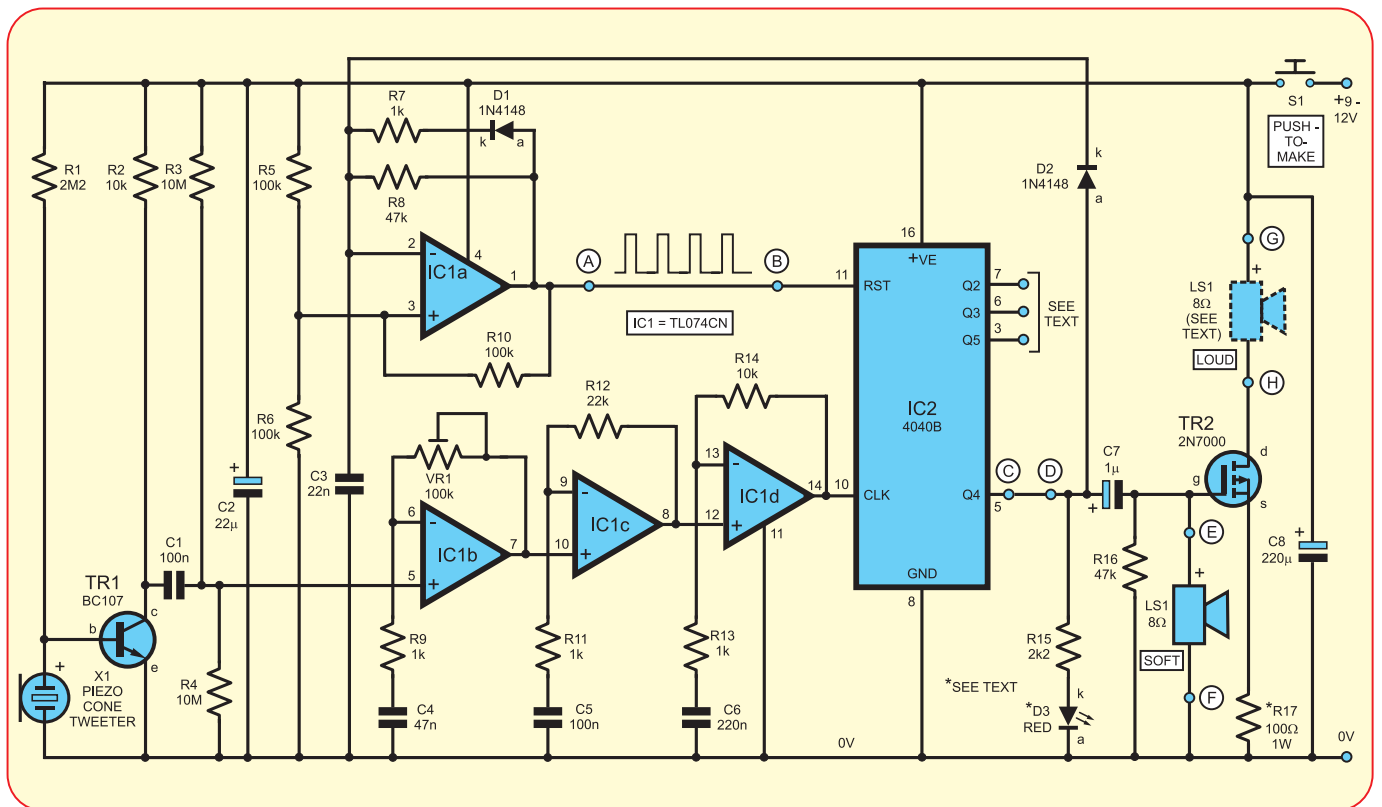
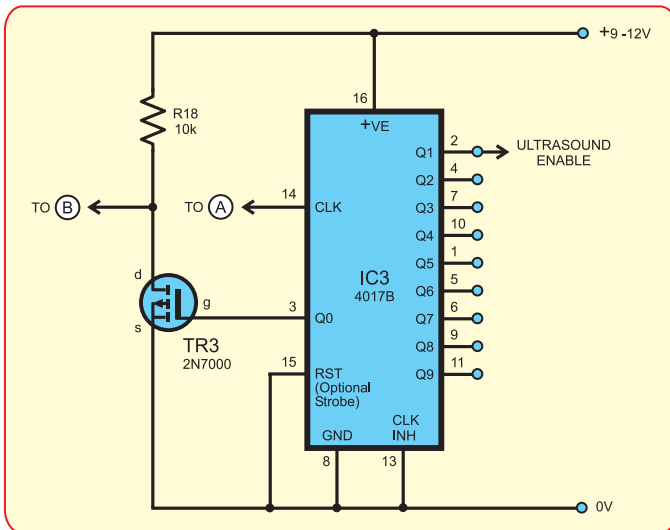

Fig.2. Complete circuit diagram for the Bat Sonar. The circled points on the circuit enable ‘variations on a theme’ to be undertaken as discussed in the text
Fig.3. Add-on circuit for converting to a sound sonar system
The full circuit diagram for the Bat Sonar is shown in Fig.2. The front end of the circuit is a simple, common emitter, transistor preamplifier
The Bat Sonar may be converted to a sonar system with remarkable ease (see Fig.3.). This is accomplished by simply inserting the add-on circuit of Fig.3 between points A and B (IC1a pin1 and IC2 pin11) of the main circuit (Fig.2.).
While the author successfully tested the circuit shown in Fig. 3, when tried in his workroom, it was found that the ultrasound may bounce all around the room. Ideally, the sonar would be used to detect objects blocking a clear path, e.g. boats on the water, or cars on the road. The author would suggest setting up the circuit on a clear surface with a single wall in front of one, e.g. a wall on a tennis court.
At any rate, as a start, you can easily wire up the circuit shown, and go from there. Suitable holes are provided on the printed circuit board (PCB) to make this 'a snap'. It is suggested that, instead of taking the output from IC2 output Q4 as shown in Fig. 2, this should be taken from output Q3 (Q2 and Q5 are also provided for experimentation). Output Q3 requires only eight pulses at IC2's clock input instead of sixteen, thus making reception of the return pulse less tricky. Note that the circuit board link between points A and B is omitted when IC3 is inserted into the circuit.
- 1 4017B decade counter (optional, see Fig.3.) (IC3)
- 1 2N700 *n*-channel FET (optional, see Fig.3.) (TR3)
- 1 10kΩ (optional, see Fig.3.) (R18)